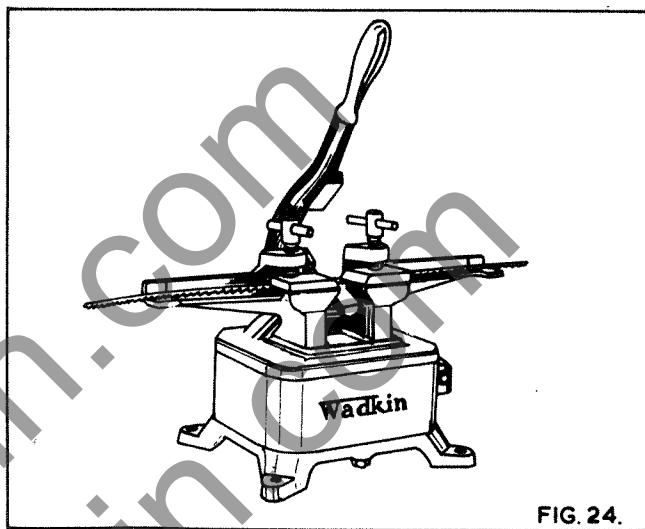

FIG. 24.
- See Fig. 24 for an efficient bandsaw brazer.